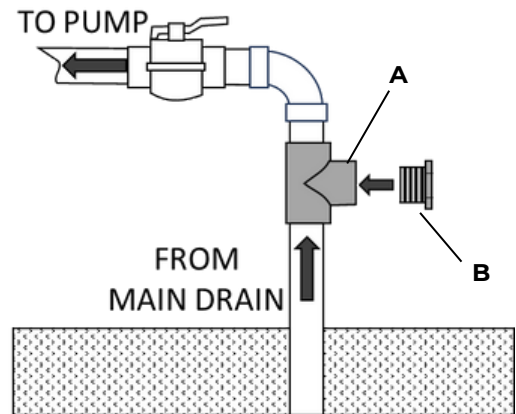

Figure 16
- 2 Between the valves and drain, install a Tee Fitting with a 2-inch Threaded Branch (A). (See Figure 16). This will allow a Threaded Plug (B) to be removed later in the setup.